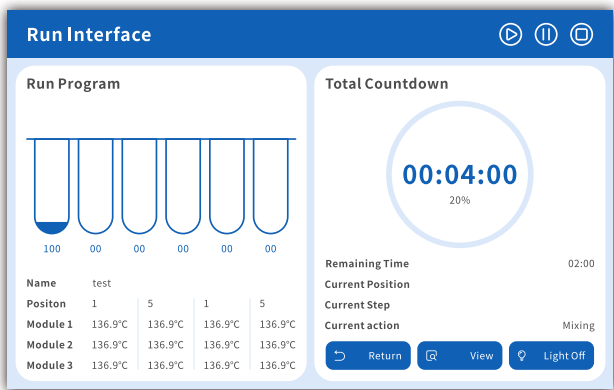

Figure 8
05. The operation interface displays: Total countdown time, Remaining time, Current action, Current position, Remaining time for current step, Real-time temperature (Refer to Figure 8).